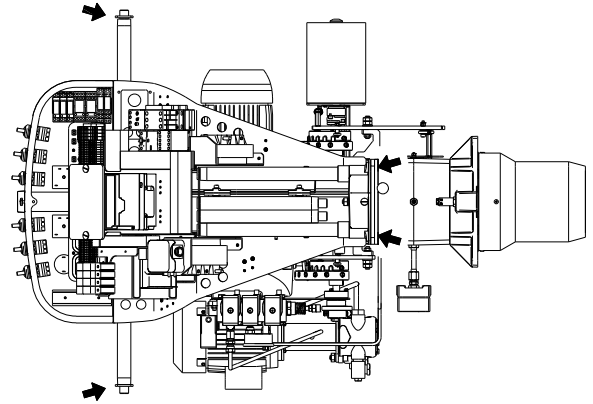

Fig. 10
- screw the two extension bars 1) on the pins 2) (Fig. 10);
- The four burner lifting points are indicated in Fig. 10.